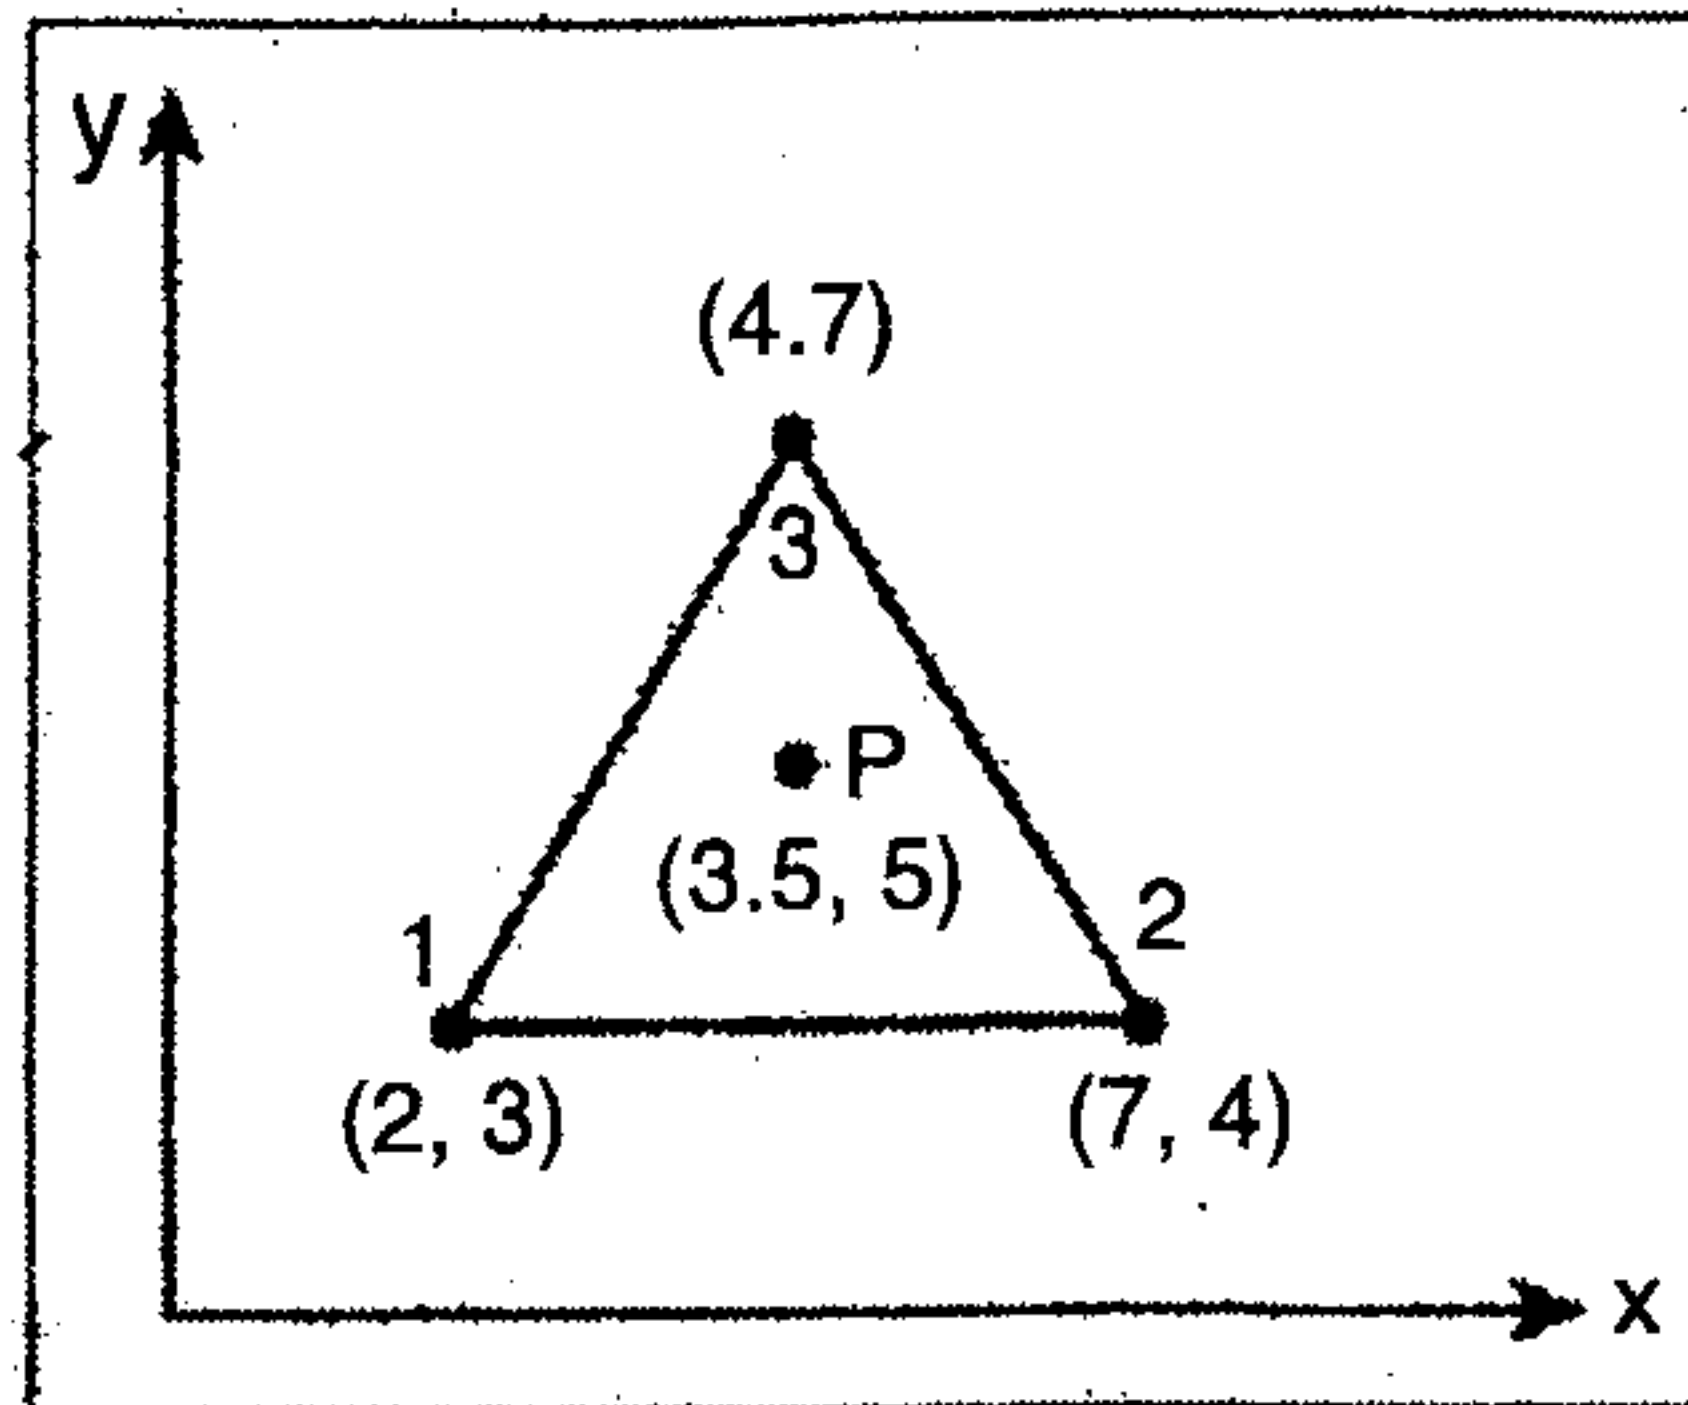

Fig. 7
13. Determine the shape functions  $N_1$ ,  $N_2$  and  $N_3$  at the interior point P for the triangular element shown in Fig. 7.